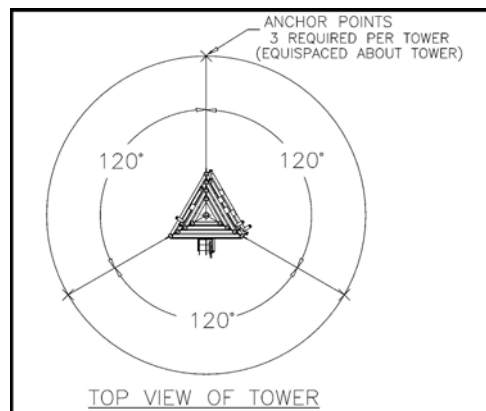
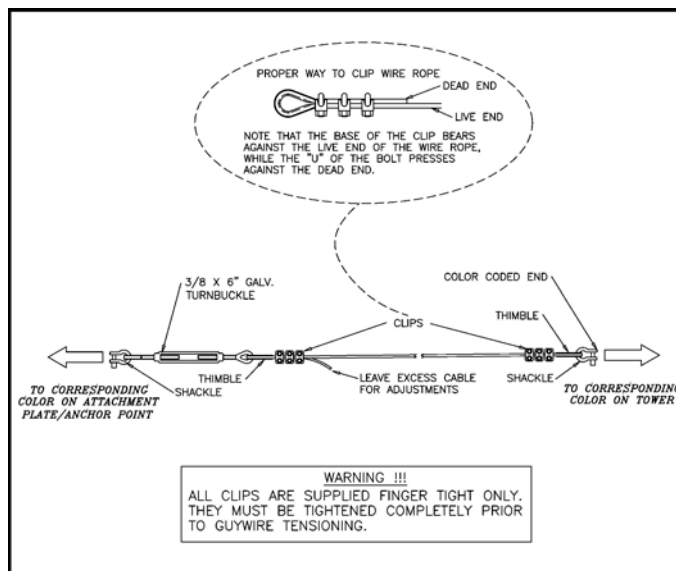

Fig. 4 Standard Guy Wire Anchor Points
Fig. 6 Proper Guy Wire Configuration
1. Locate the Trailer/Tower unit in a place that will allow the following radius around the tower: 70 foot radius for the T-100H & T-100UGH towers; 60 foot radius for T-85UGH tower; 55 foot radius for the T-75H tower; and a 40 foot radius for the T-50H tower. Mark the location (120 degrees apart) of each anchor point (*see Fig. 4*). Refer to the enclosed appropriate guy wire drawing specifications for your specific model. As an alternate, the Model GA-1 or GA-2 helical screw type guy anchors or CGA-1680 concrete type ground anchors can be used.
5. Attach the color coded ends of the guy wires to the corresponding color coded guy ears at the top of each section of the tower, using the screw pin shackle (*see Fig. 6*). Be sure to tighten the screw pin shackle with a wrench. Lay the appropriate sets of three each guy wires in the general direction to which they will be anchored. (*see Fig. 4*). See below if "***Erecting the Tower at Less Than Full Height***".
Attach the blue color coded ends of the guy wires to the corresponding blue color coded guy ears at the top of the bottom section of the tower. Attach the **yellow** color coded ends of the guy wires to the **red** color coded guy ears at the top of the top section of the tower, using the screw pin shackle (*see Fig. 6*). Be sure to tighten the screw pin shackle with a wrench. Lay the appropriate sets of three each guy wires in the general direction to which they will be anchored. **(DO NOT attach guy wires to the middle section of the tower).**
Attach the green color coded ends of the guy wires to the corresponding green color coded guy ears at the top of the bottom section of the tower. Attach the **blue** color coded ends of the guy wires to the **red** color coded guy ears at the top of the top section of the tower, using the screw pin shackle (*see Fig. 6*). Be sure to tighten the screw pin shackle with a wrench. Lay the appropriate sets of three each guy wires in the general direction to which they will be anchored. **(DO NOT attach guy wires to the middle section of the tower).**